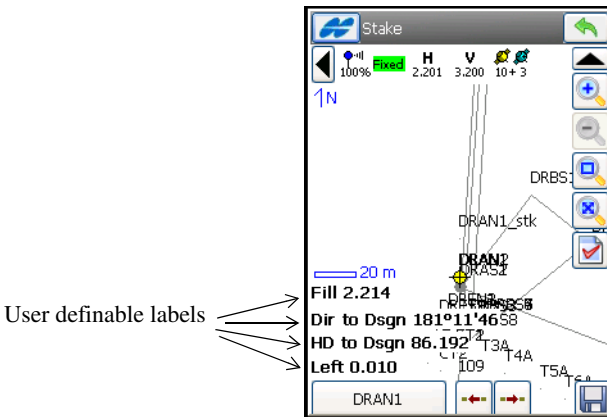

Figure 13-9. Stakeout Map View
**Map View:** opens the full screen graphical view of the whole job with the highlighted design point and current position (Figure 13-9).